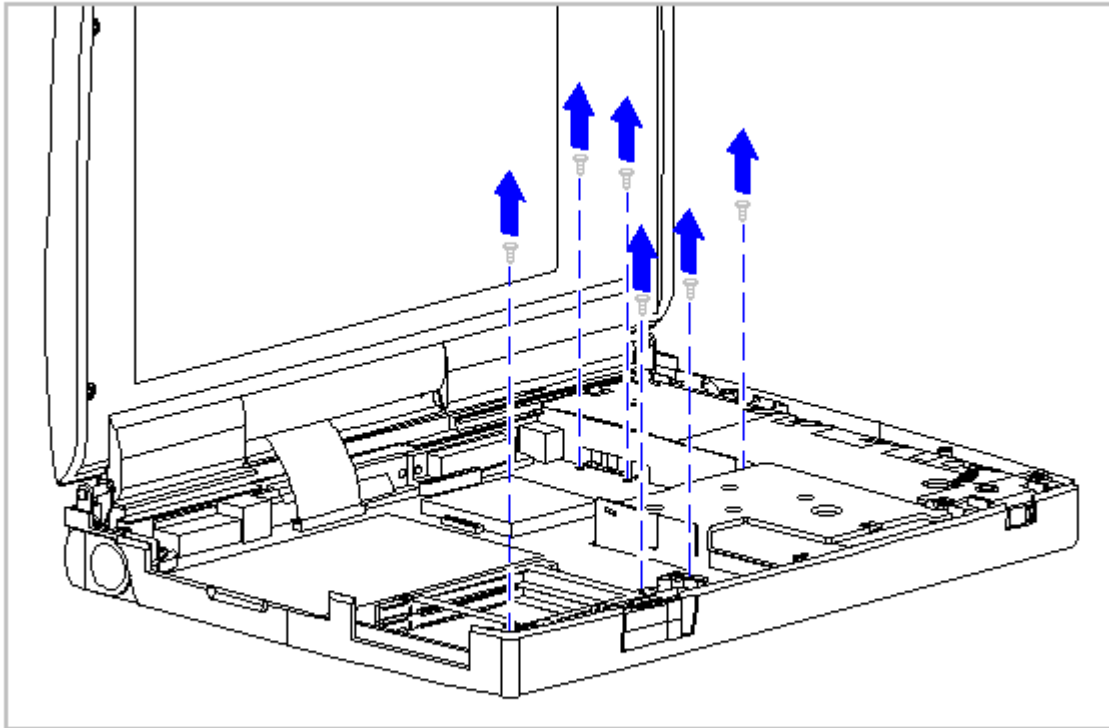

Figure 3-54. Removing the Four System Board and the Two Battery Contact Screws (Models 420 and 430)
16. For Models 420 and 430, using a Torx T8 or slotted driver, remove the four screws from the system board and the two screws from the battery contact (Figure 3-54).